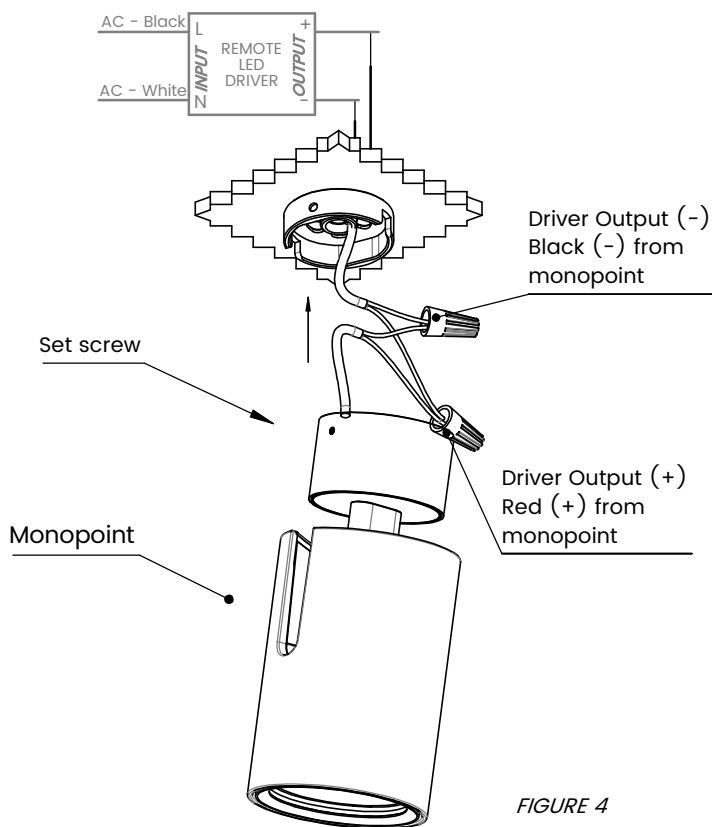

FIGURE 4
- 3 Complete the wiring connections (see Figure 4).